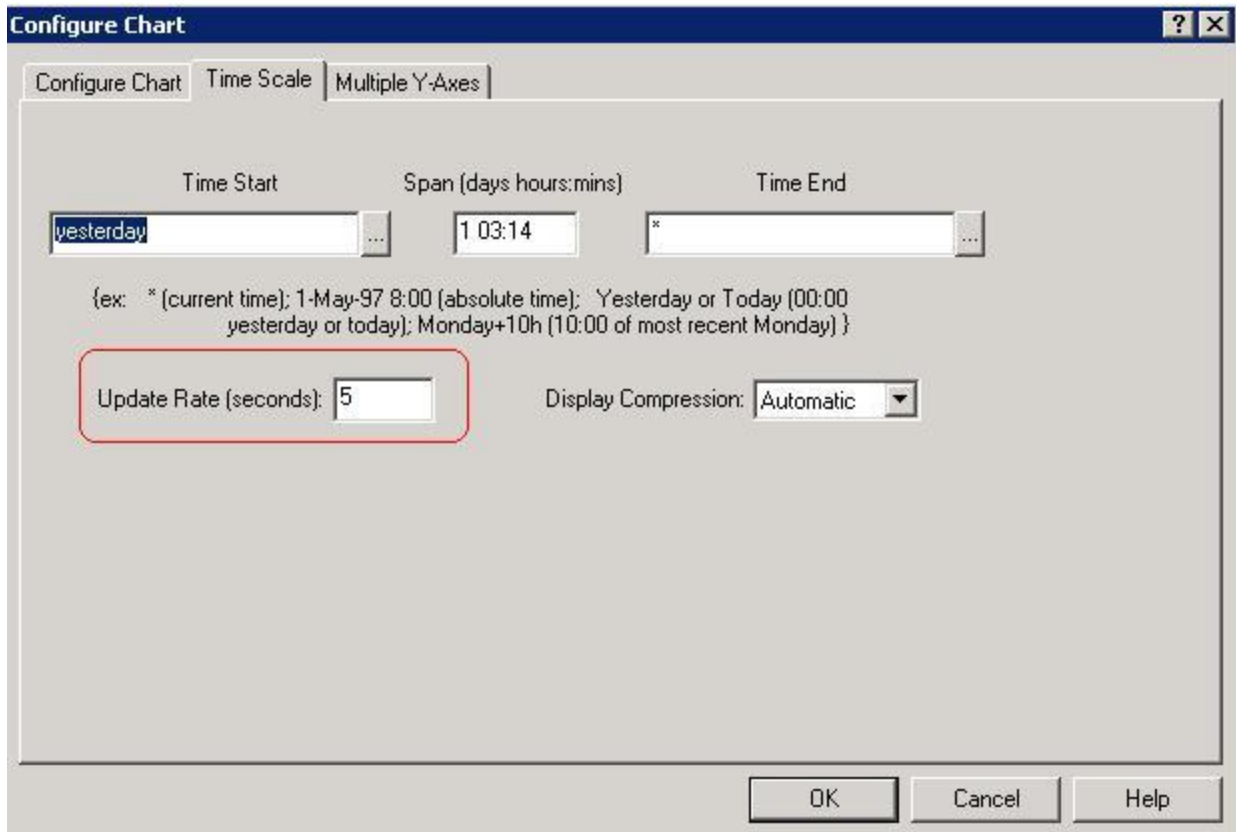

Figure 1 - Setting the Update Rate of a Chart
- C. Increase the Process History View update rate to 2 seconds or greater. The Update Rate can be modified by selecting **Chart | Configure Chart** and clicking on the Time Scale tab, as shown in Figure 1. By default, the value for the update rate is set to 5 seconds.